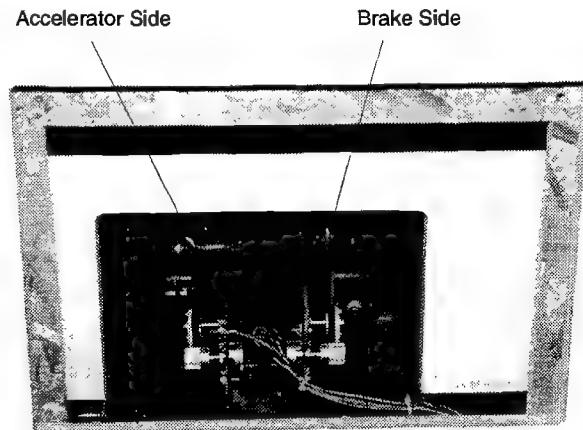

FIGURE 58: ACCELERATOR AND BRAKE ASSEMBLY ACCESS
2. Open the lower rear service panel on the affected side. From the rear, the Brake is on the right, and the accelerator is on the left (see Figure 58).
From the rear, the Brake is on the right, the Accelerator is on the left (see Figure 58).